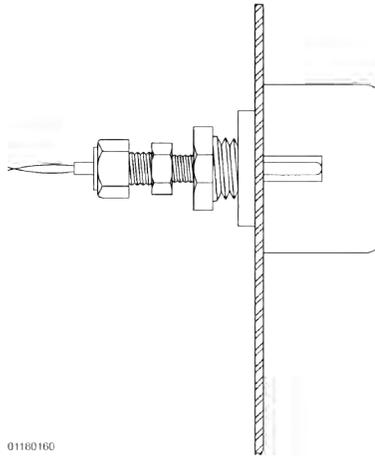

Figure 6-1 Probe Assembly Install
- 10) Place gauge against pot wall as shows in Figure 6-1 Probe Assembly Install, page 46.